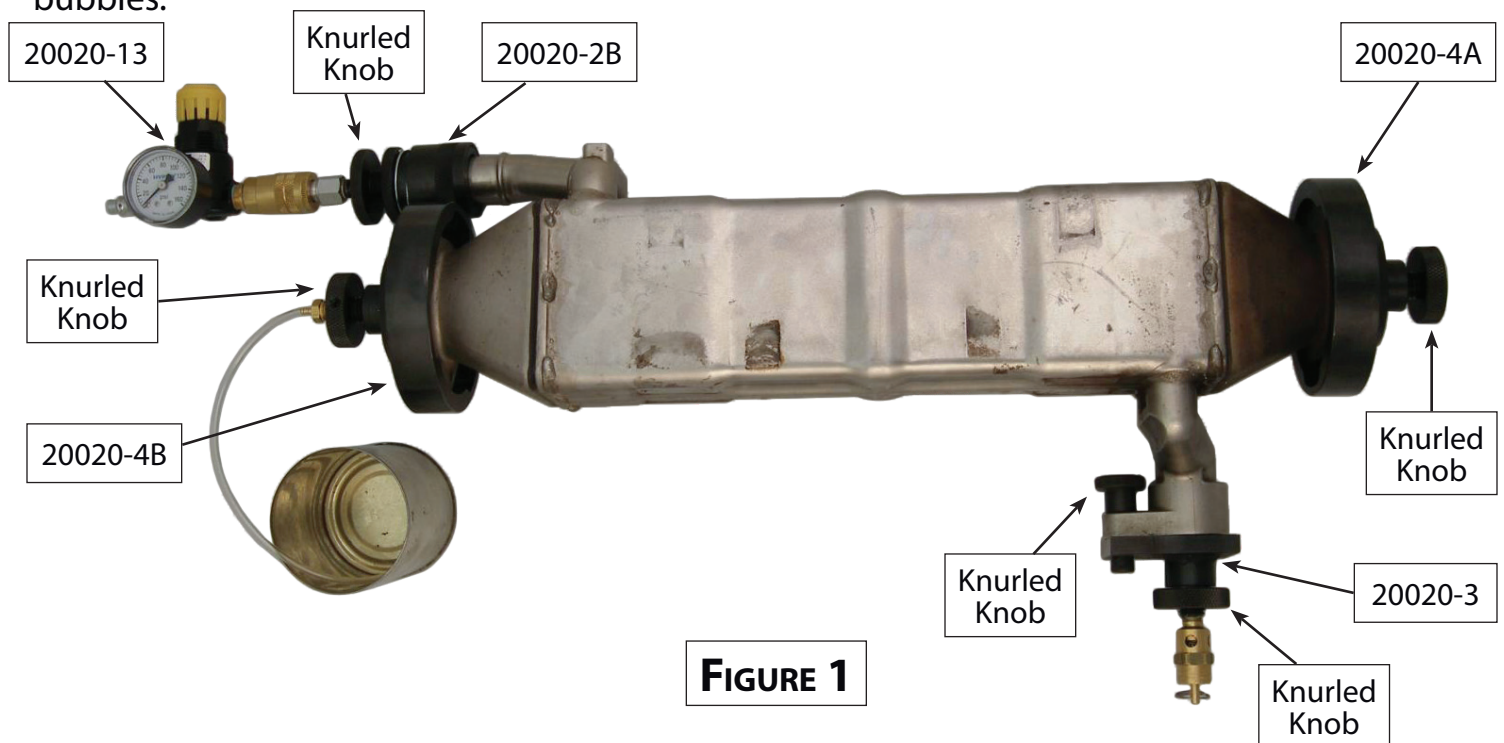

FIGURE 1
2. Install the quick connect onto the pipe as shown in Figure 1. Make sure the quick connect is fully seated and locked onto the pipe before tightening the knurled knob.
2. Insert the tool into the proper location, and replace the knurled stud onto the screw and tighten on the back side of the plate as shown in Figure 1.
2. Install the tool over the flange as shown in Figure 1, inserting the flange into the opening in the tool.